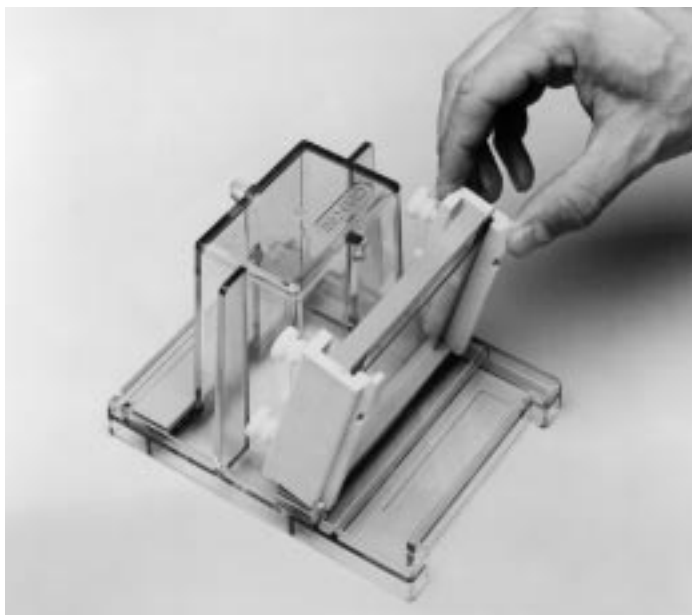
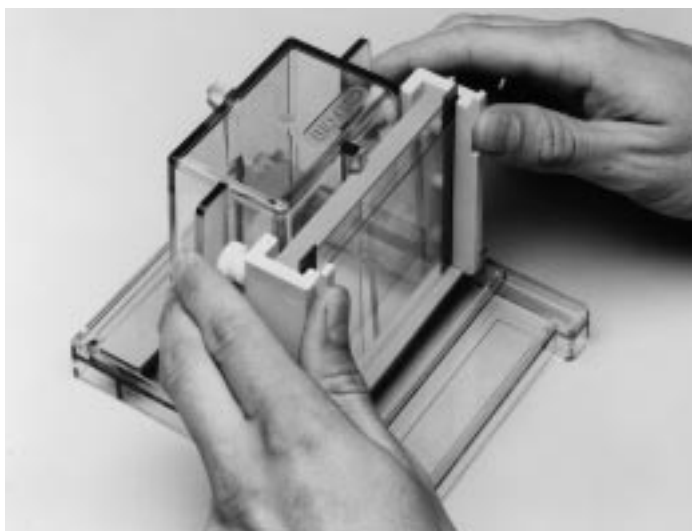

Fig 3.5
Fig 3.6
7. Attach the sandwich in the following way: Butt the acrylic pressure plate against the wall of the casting slot at the bottom, so the glass plates rest on the rubber gasket (see Figure 3.5). Snap the acrylic plate underneath the overhang of the casting slot by pushing with the white portions of the clamps (see Figure 3.6). Do not push against the glass plates or spacers. This could break the plate.